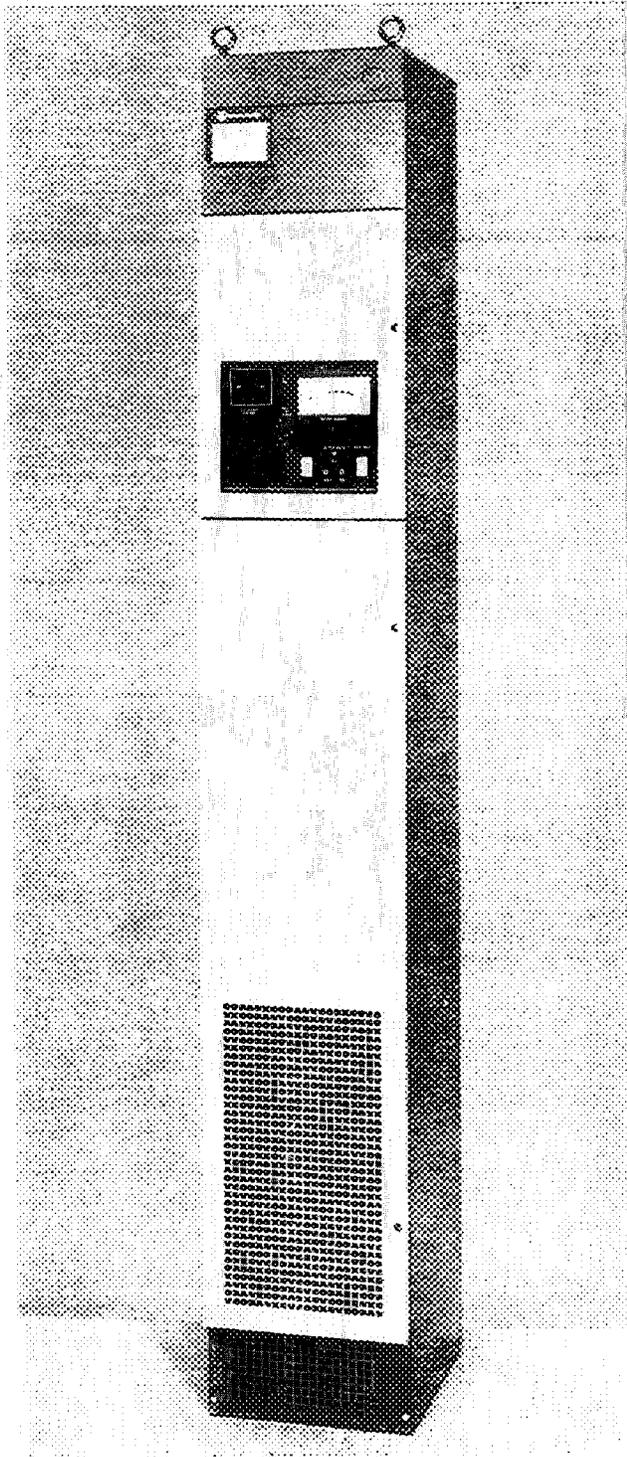

Fig. 3—J87438A/J87439A Rectifier—Front View
2.04 The J87438A and J87439A rectifiers (Fig. 3 and 4) have two hinged doors, one above the other, and a faceplate mounted (with two screws) above the doors. The top door is cut to expose a recessed control panel which is mounted to the cabinet with four screws. Multiple units may be bolted side-by-side or back-to-back. The doors are painted white, the control panel is black, and the cabinet and faceplate are finished in textured blue enamel. The rectifiers are 84 inches high, 15 inches deep (16.38